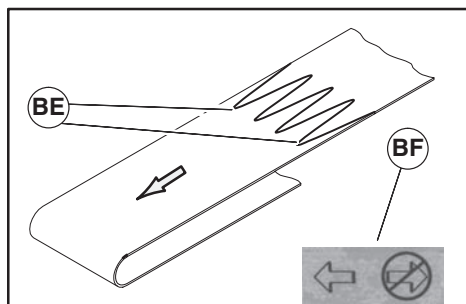

Figure 31
1. Orient belt so splice leading fingers (Figure 31, item BE) point in the direction of belt travel as identified by the conveyor directional label (BF).
2. Orient belt so splice leading fingers (Figure 31, item BE) point in the direction of belt travel as identified by the conveyor directional label (BF).